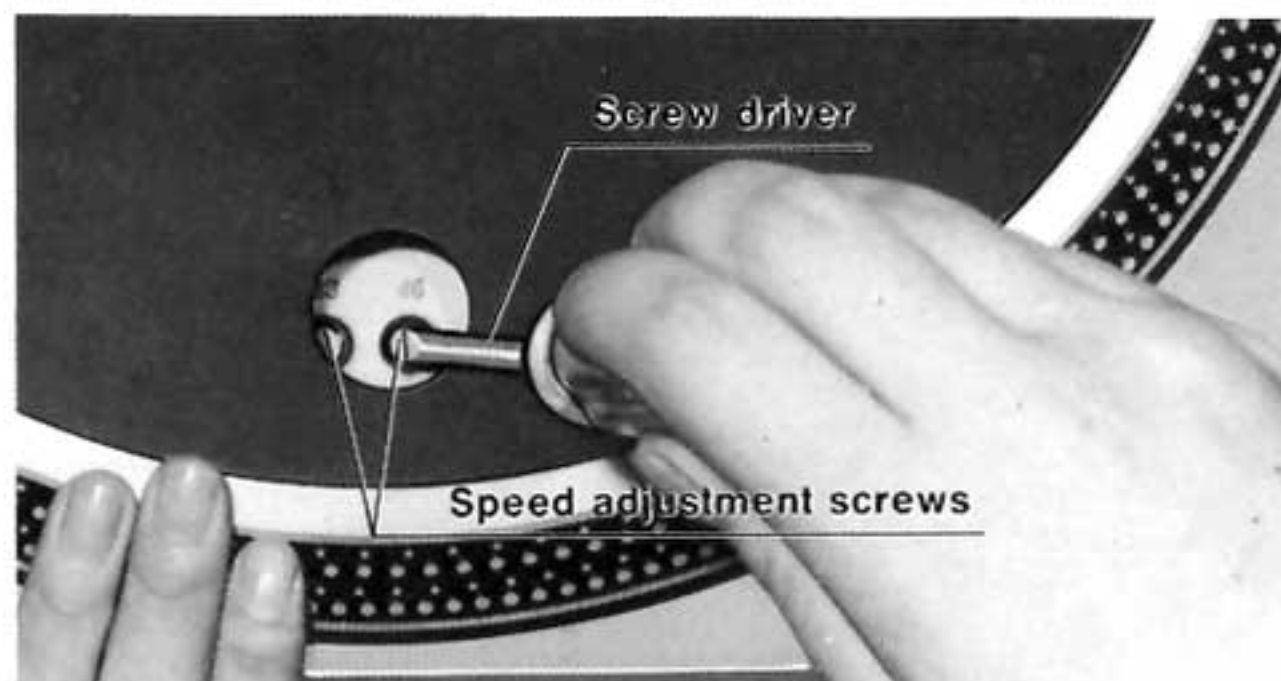

Fig. 17
### ② SPEED ADJUSTMENT (with speed adjustment screws) (See Fig. 17)